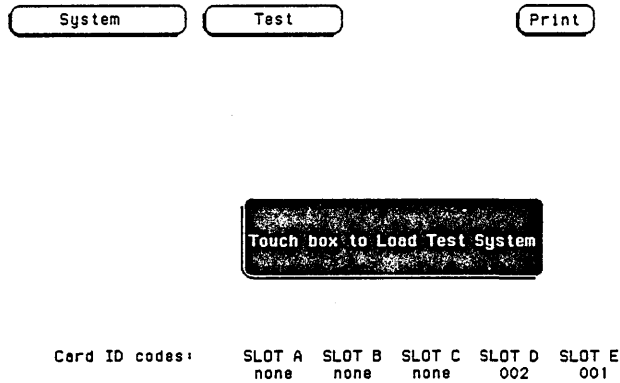

Figure 6-5. Load Test System
3. Touch box to load Test System. See figure 6-5.